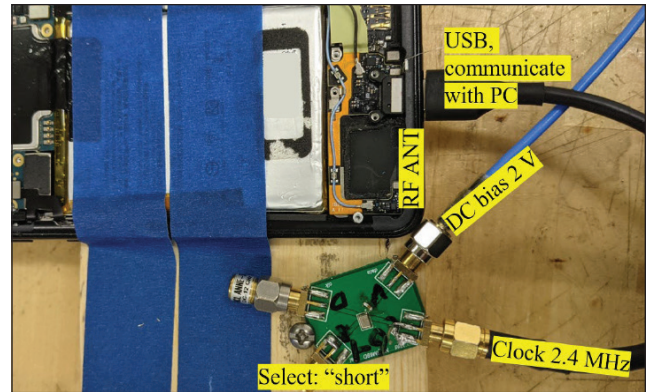

Figure 5: Cellphone RFI setup for TX & clock modulation caused desense
According to the derivations in (4)~(8), the interfering RF power is a function of the duty cycle. Tuning the duty cycle will result in varying c_n^+ and thus varying RSSI. To validate the feasibility of desense mitigation, two measurements were conducted. Considering practical limitation that the Dmic inside the phone cannot modify the clock duty cycle, a separate Dmic module was used and powered up by an adjustable external signal generator. The Dmic module was placed nearby the cellphone RF antenna to maintain the coupling path as Figure 5 shows. The Dmic was provided with the clock signal and DC bias from a function generator (Agilent 81150A). In this setup, the round-trip coupling and the up-conversion due to nonlinearity still exist to mimic the same mechanism as Figure 1(b).